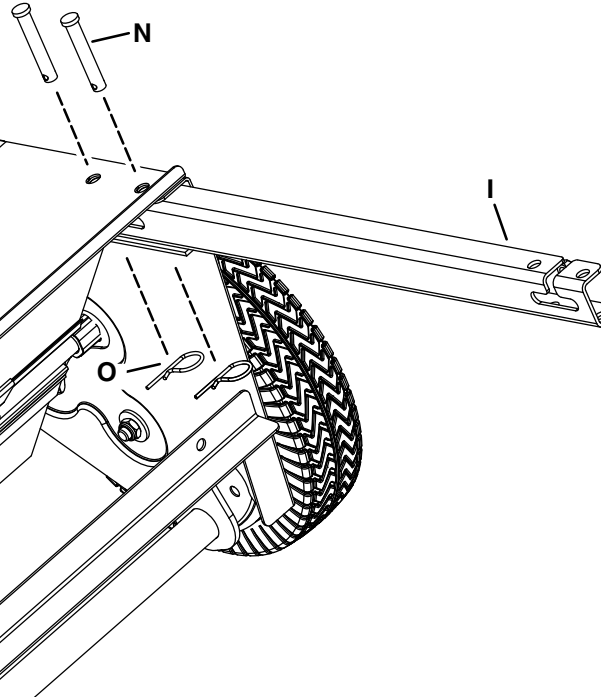

Figure 4
STEP 4: (SEE FIGURE 4)
- Attach the bag arm (I) to the sweeper housing using 3/8" x 2-1/4" clevis pins (N) and 3/32" x 1.8" hair pins (O).